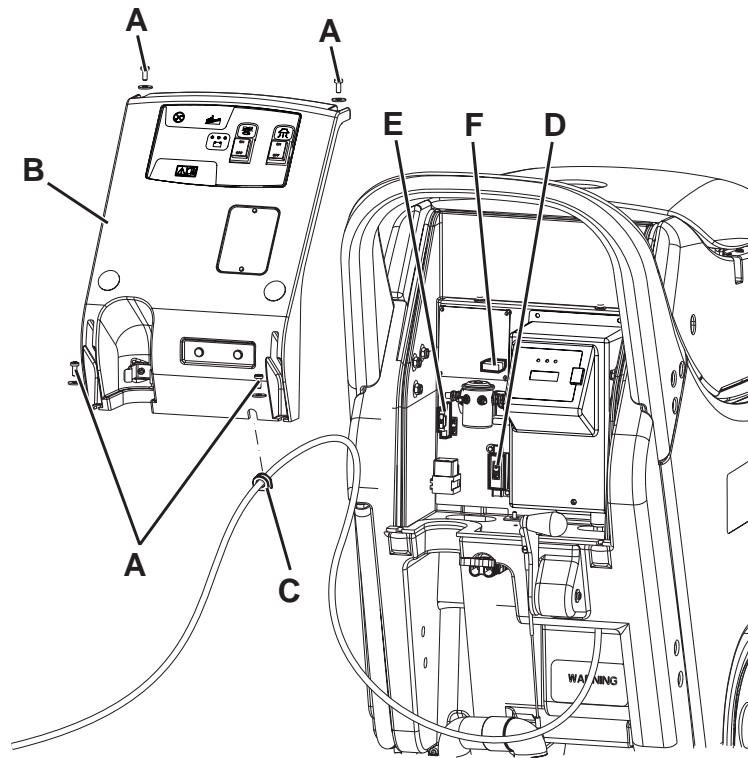

Figure 10
1. Disconnect the battery connector (8).
2. Move aside the recovery water drain hose (11).
3. Remove the battery charger cable, if equipped, from the cable holder (5).
4. Remove the screws (A, Fig. 10) and carefully move aside the panel (B) by disengaging the grommet (C) from its housing on the panel (B).
- (D) Brush deck fuse F1 (40 A)
- (E) Vacuum system fuse F2 (30 A)
- (F) Electronic board fuse F3 (5 A)